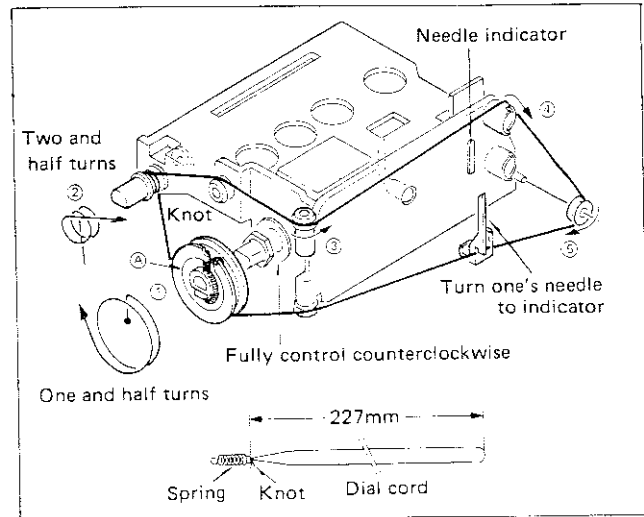

Fig. 4-1
2. After aligning the pulley marked **(A)** in Fig. 4-1 to the position indicated on the figure, set the cord in the order shown by the encircled numbers.